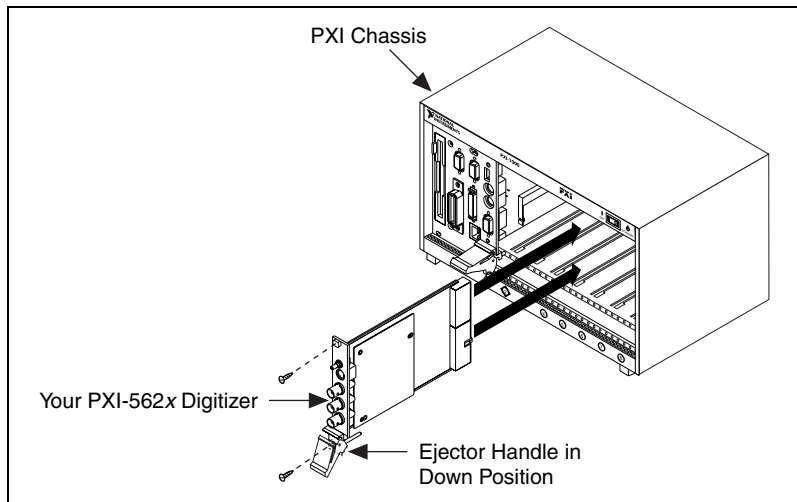

Figure 1-1. NI PXI-562x Installation
4. Install your digitizer as shown in Figure 1-1.